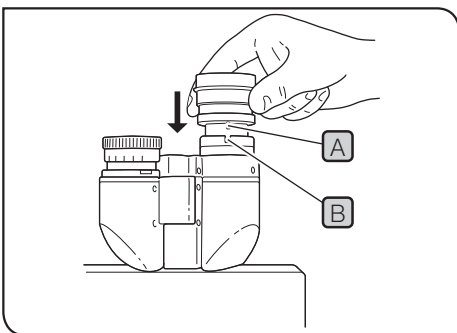

Fig.61
**8 Attaching the eyepieces** (Fig.61)